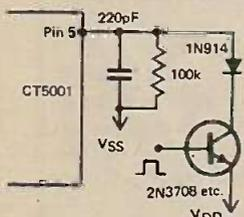

Fig. 8. Electronic '1' key, see notes.
2. Counter. a) Connect the $\frac{1}{2}$ pin to VDD. b) Electronically key the '1' key. The I.C. will count and display the number of ones keyed. The number is displayed whenever the '1' key is up. The maximum pulse rate is about 50Hz. To reset press the Clear key. The $\frac{1}{2}$ pin can be left connected to VDD whilst resetting. See Fig.8.